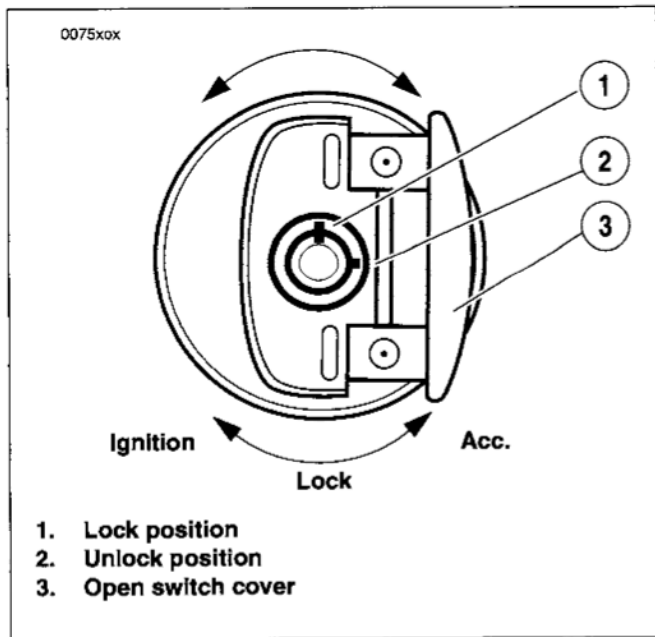

Figure 22. Ignition/Light Key Switch
See Figure 22. The ignition/light key switch controls electrical functions of the motorcycle.
1. See Figure 22. Verify switch is in Lock position.